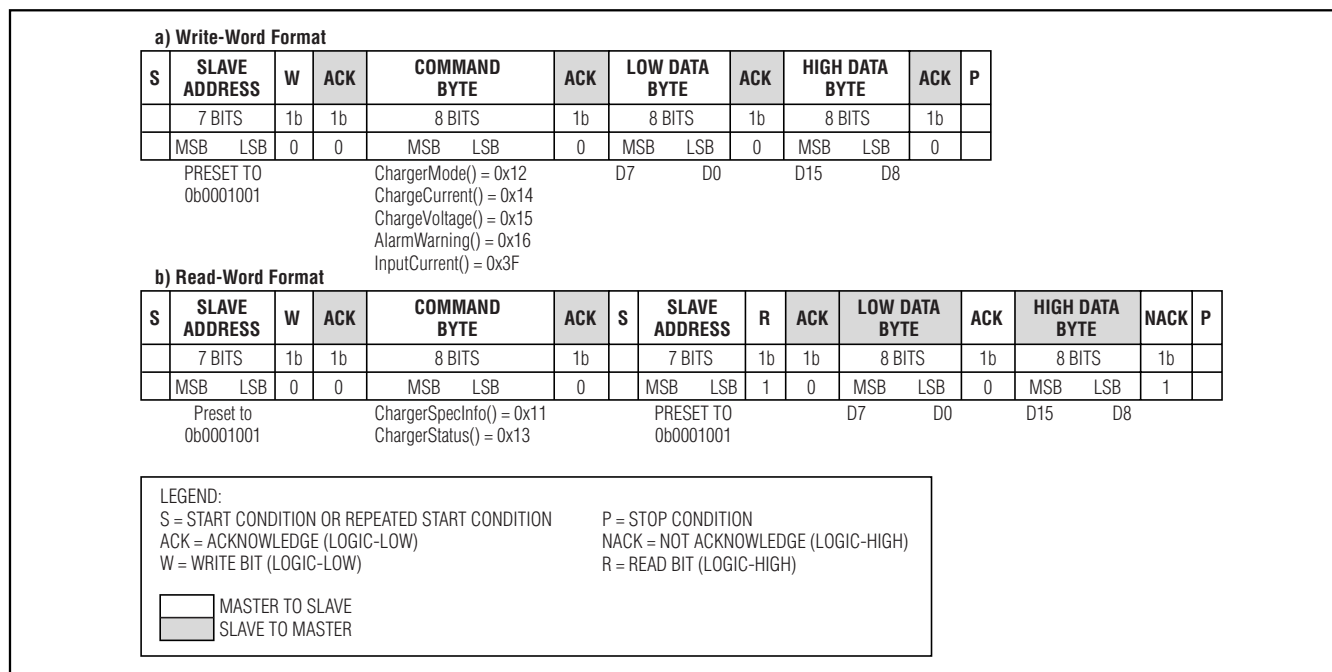

Figure 3. SMBus Write-Word and Read-Word Protocols
To set the charge current, use the SMBus to write a 16-bit ChargeCurrent() command using the data format listed in Table 2. The ChargeCurrent() command uses the Write-Word protocol (see Figure 3). The command code for ChargeCurrent() is 0x14 (0b00010100). When $RS2 = 10m\Omega$, the MAX8731 provides a charge current range of 128mA to 8.064A, with 128mA resolution. Set ChargeCurrent() to 0 to terminate charging. Upon reset, the ChargeVoltage() and ChargeCurrent() values are cleared and the charger remains off until both the ChargeVoltage() and the ChargeCurrent() commands are sent. Both DHI and DLO remain low until the charger is restarted.
To set the input current limit, use the SMBus to write a 16-bit InputCurrent() command using the data format listed in Table 3. The InputCurrent() command uses the Write-Word protocol (see Figure 3). The command code for InputCurrent() is 0x3F (0b00111111). When $RS1 = 10\text{m}\Omega$, the MAX8731 provides an input-current-limit range of 256mA to 11.004A, with 256mA resolution. InputCurrent() settings from 1mA to 256mA result in a current limit of 256mA. Upon reset the input current limit is 256mA.
The MAX8731 receives control inputs from the SMBus interface. The MAX8731 uses a simplified subset of the commands documented in System Management Bus Specification V1.1, which can be downloaded from www.smbus.org. The MAX8731 uses the SMBus Read-Word and Write-Word protocols (Figure 3) to communicate with the smart battery. The MAX8731 performs only as an SMBus slave device with address 0b0001001_ (0x12) and does not initiate communication on the bus. In addition, the MAX8731 has two identification (ID) registers (0xFE): a 16-bit device ID register and a 16-bit manufacturer ID register (0xFF).